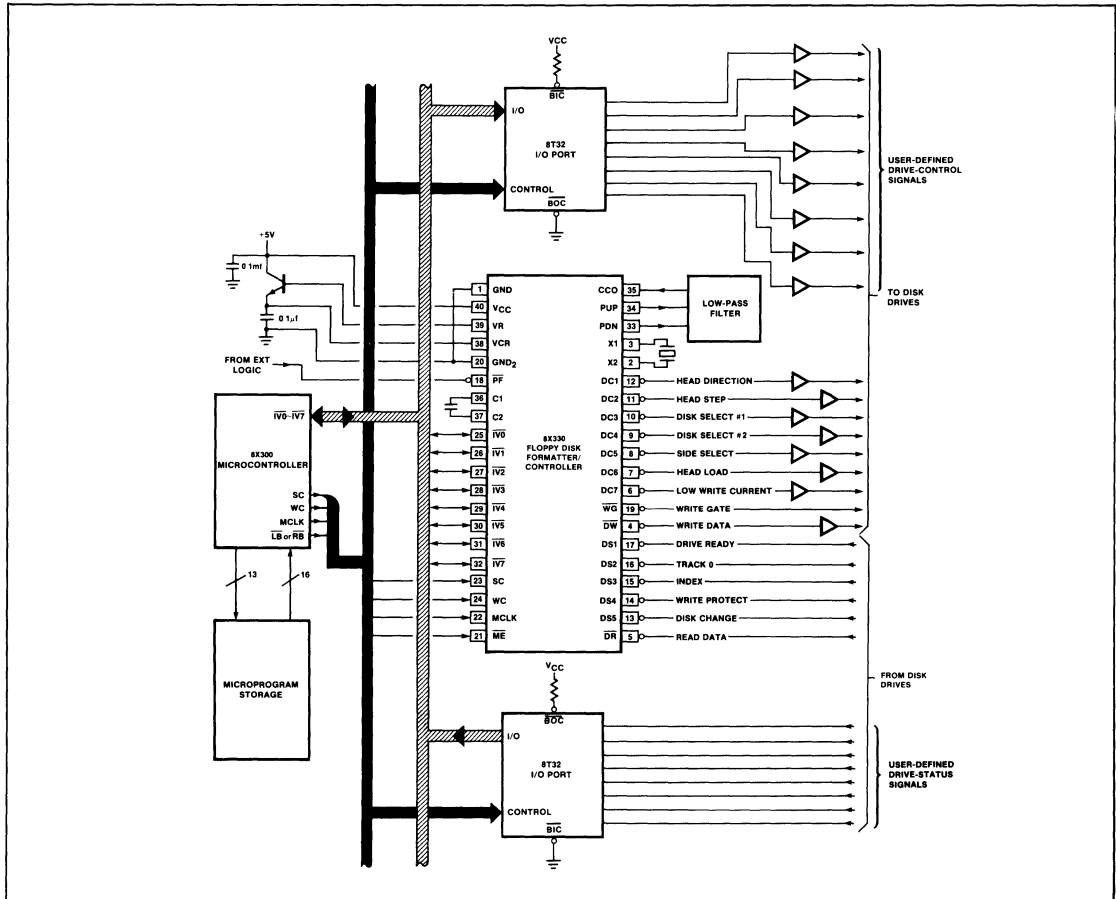
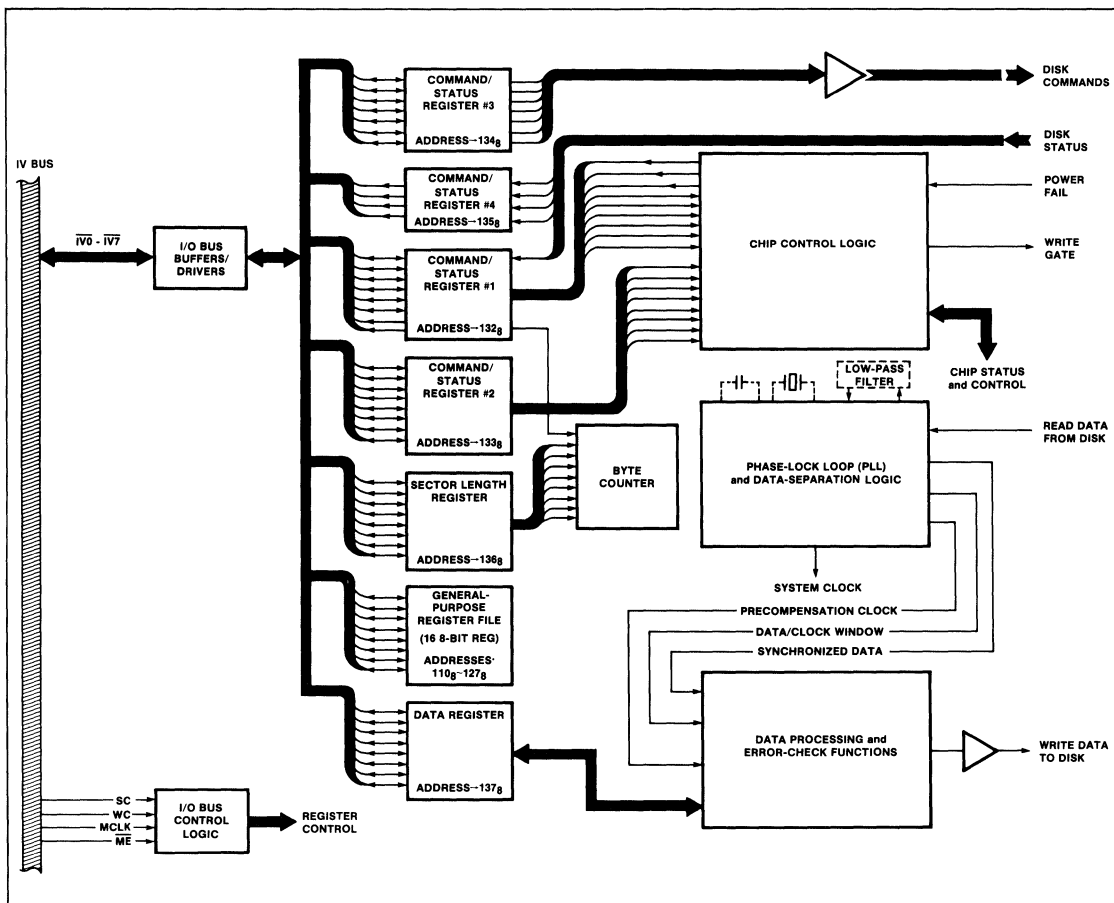

Figure 2. Typical Interface Using an 8X300 Microcontroller
Figure 3. An Expanded View of the 8X330/8X300 Interface
A typical floppy disk controller using an 8X300 microcontroller and the 8X330 is shown in Figure 2. The non-shaded portion of this particular configuration can service the command, status, and input/output requirements of two double-sided disk drives and, under software supervision, the system can read/write single-density (FM) or double-density (MFM/M2FM) codes. Interface requirements are simple—on one hand, consisting of the 8X300 microcontroller and, on the other, the two disk drives. All 8X330 control and data registers directly linked to the microprocessor interface (Figure 1) are addressable and appear to the 8X300 as simple I/O ports; a 13-bit address bus and a 16-bit instruction bus provide communications between the 8X300 and up to 8K of microprogram storage.
thus, the user can assign system functions to best suit a given application. As shown in Figure 2, all control lines except WG are buffered to accommodate a reasonable distance between the controller and the disk media; the Write Gate, being a 40-milliampere output, requires no buffering.
As shown by the shaded part of Figure 2, the control and status lines can be expanded with peripheral hardware—the 8T32 (in this example) being only one method of implementation. Using this particular technique, one I/O port is totally dedicated to output control, whereas, the other port is totally dedicated to input status. With additional hardware and supporting software, the disk-drive system can be expanded without limit; however, from a point of being practical, five or six drives is sufficient for most applications. By using the programmable features of the 8X330, the user can emphasize and prioritize those system parameters that are most important—economics, reliability and/or speed.
As shown in Figure 2, the interface between the 8X300 and 8X330 consists of twelve (12) lines— $\overline{IV0}$ - $\overline{IV7}$, SC, WC, MCLK, and \overline{ME} ; the Master Enable (\overline{ME}) input (pin 21) is driven from either the \overline{LB} (Left Bank) or \overline{RB} (Right Bank) output of the 8X300. An expanded view of this interface is shown in Figure 3 and, as indicated, the 8X330 appears as a number of addressable registers (110g-127g and 132g-137g) under input/output control of the 8X300. These registers are used for general-purpose storage, data-transfer operations, disk commands, disk status, and various control functions. Design-oriented information for these registers and other data-processing/logic functions of the 8X330 are described in the paragraphs that follow; in all of these registers, bit 0 is the Most Significant Bit (MSB).